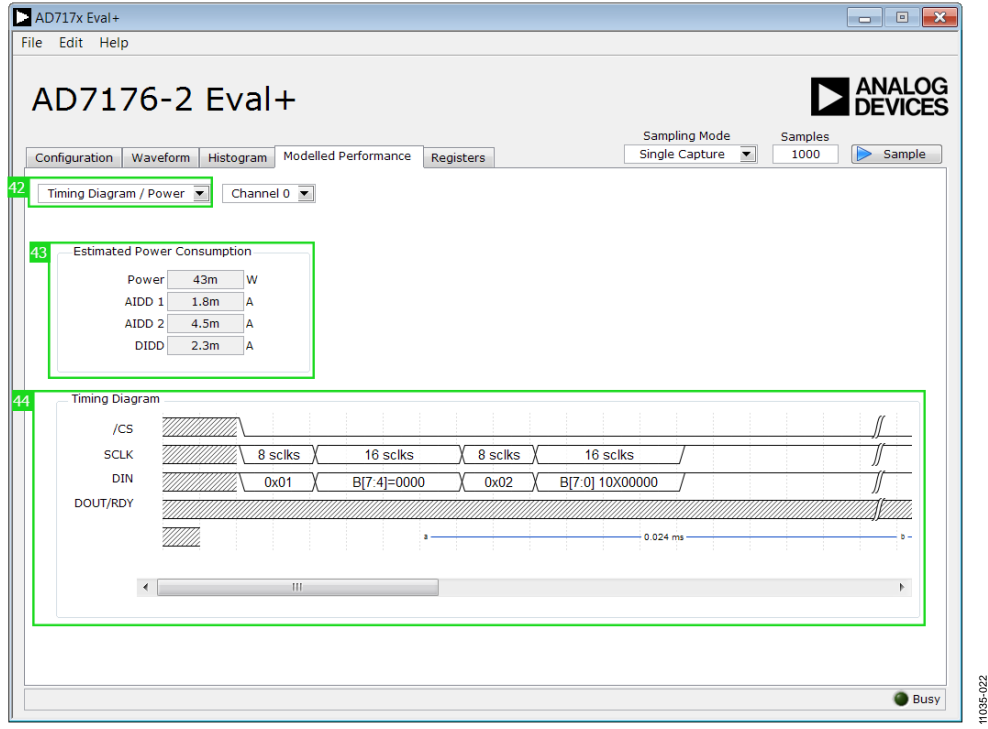

Figure 25. **Timing Diagram / Power** of the **AD7176-2** Evaluation Software
This dropdown menu gives the ability to switch between the three sections of the **Modelled Performance** (31) tab. Figure 25 shows the tab when **Timing Diagram / Power** (42) is selected.
Power Consumption (43) feature is for continuous conversion mode only, and no other mode of operation is supported (see Figure 25).
This graph shows the digital interface **Timing Diagram** (44) for the current configuration. The graph shows the timing for both the configuration of the ADC and the subsequent data reads from the ADC (see Figure 25).